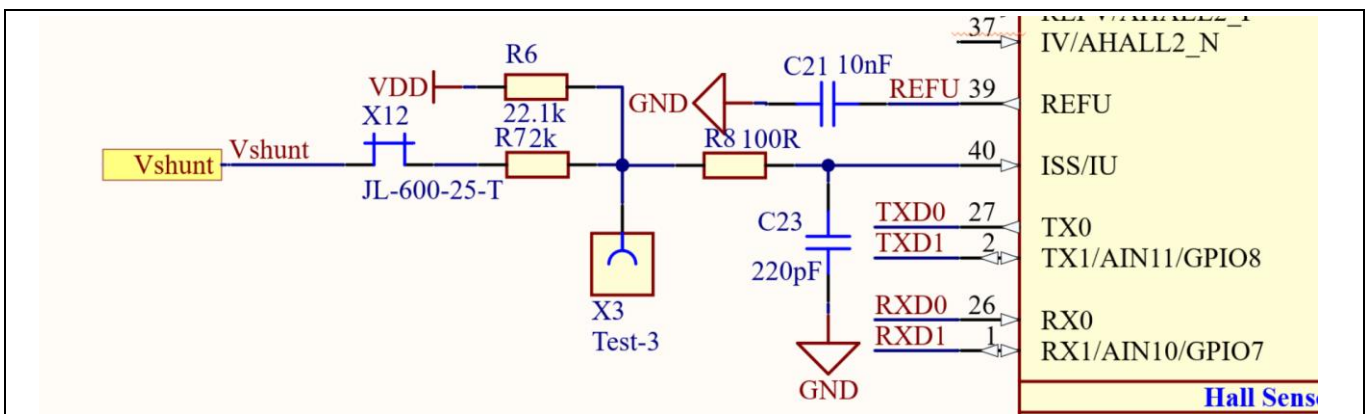

Figure 16 Current-sensing circuit on the board
As an example in Figure 16, this board has the following values:  $R_1 = R_7 = 2 \text{ k}\Omega$ ,  $R_2 = R_6 = 22.1 \text{ k}\Omega$ ,  $V_{CC} = 5 \text{ V}$ . By using the formula Eq. 5, the offset is 0.415 V, and the gain is  $\frac{R_2}{R_1 + R_2} * R_{shunt} = 229.3 \text{ mV/A}$ .
- R8 and R20 in Figure 16 also determine ADC operational bias for current sensing, which corresponds to the motor regeneration operation range. For the applications that do not work with regenerative braking mode,